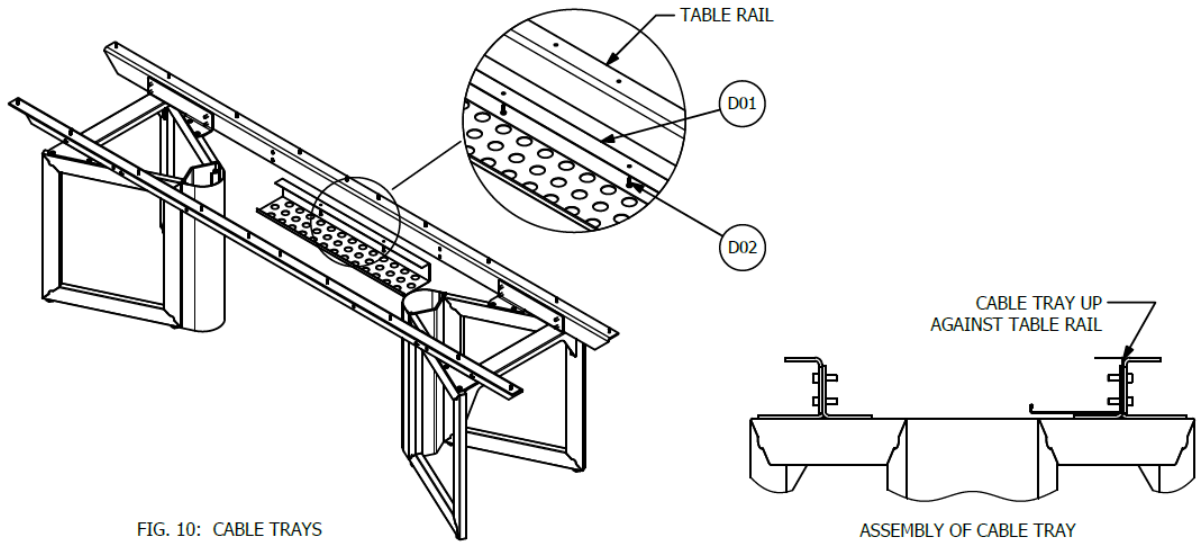

FIG. 10: CABLE TRAYS
1. Using Fastener (D02) attach Cable Tray (D01) up against the inside surface of the Table Rails (A). See Figure 10.